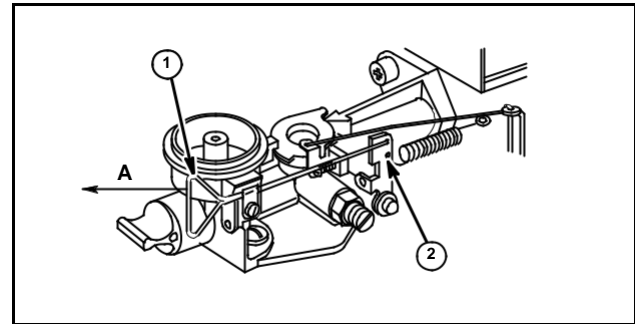

Fig. 14
The following drawings of governor controls (Figs. 14 through 49 and 61 through 136) are to show how governor links and springs are to be installed on carburetors. For governor control adjustments, see Section 5, GOVERNORS. Figs. 14–22 below show Models 60100, 61100, 80100, 81100 Horizontal Crankshaft. **“A” indicates movement of cable or linkage to increase speed, “B” to decrease speed.**
Pull out rod (1) to increase speed. Governor spring hooks in hole (2), Fig. 14.